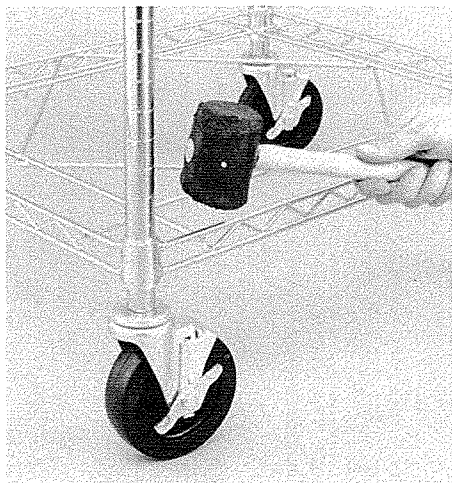

Fig. 4
6. Stand the unit upright and apply pressure at each corner to seat the frame securely. Then using a rubber mallet or a hammer and a block of wood, hit the frame down until the groove at the top of the sleeves is visible. (Fig. 4).